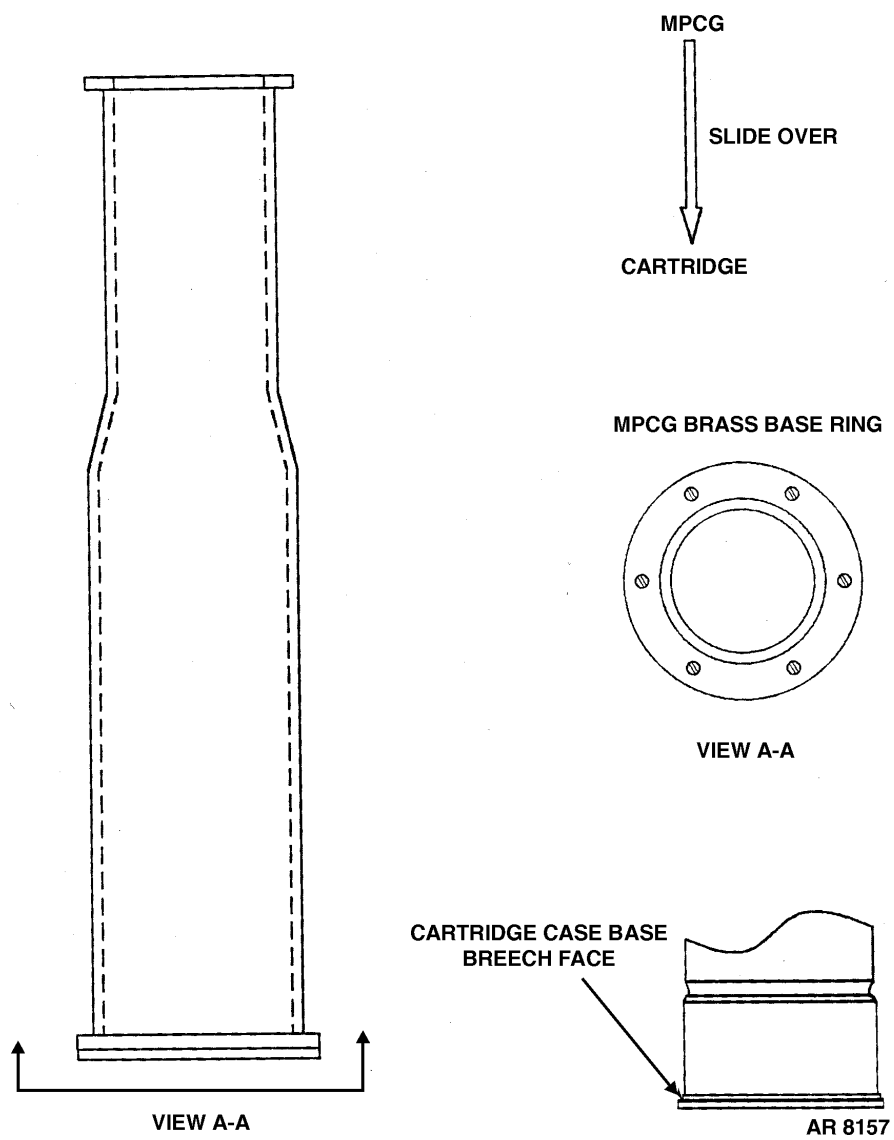

Figure 4-13. Man Portable Chamber Gage (MPCG)
- (6) Slide MPCG over cartridge until MPCG brass ring contacts case base breech face (fig.4-13). Cartridge is acceptable if metal to metal contact is made between brass base ring and case base breech face.